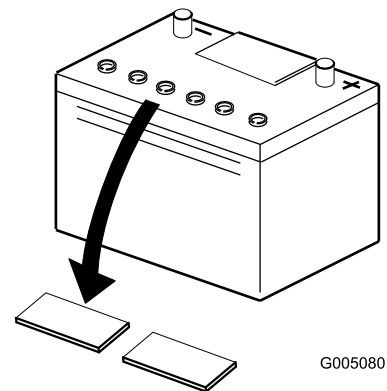

Figure 5
4. Clean the top of the battery and remove the vent caps (Figure 5).